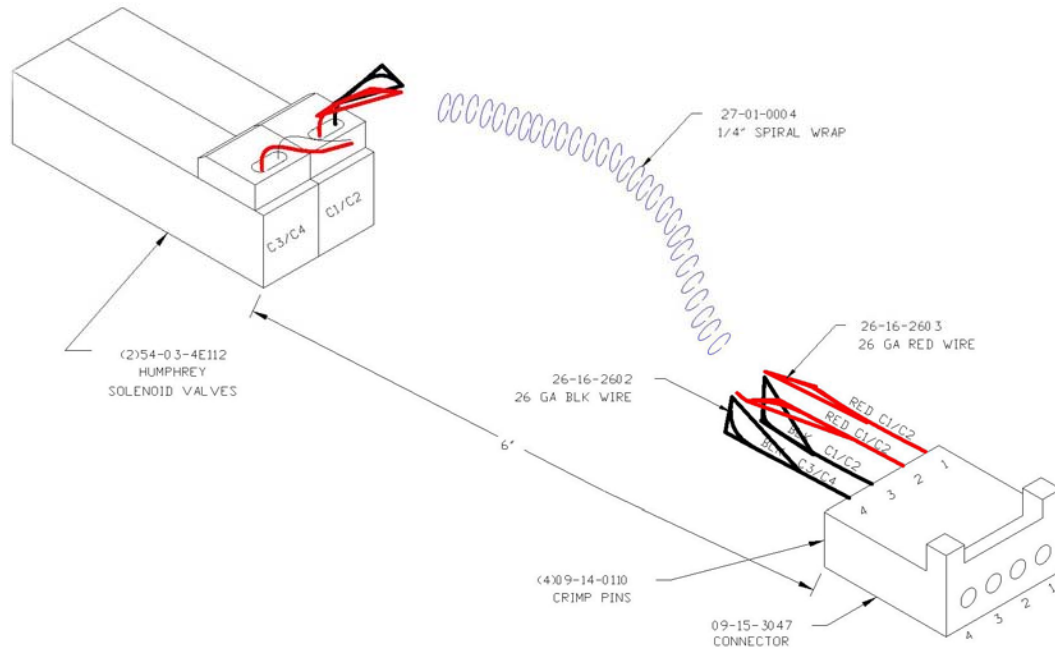
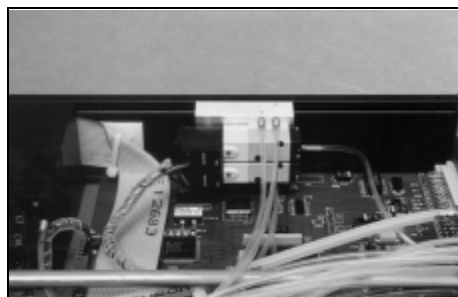

Figure 5.9
Figure 5.9a
- (1) Disassemble the module as described in **Section 5.1.2**.
- (2) Remove the two (2) Allen-head screws that secure the solenoid manifold to the module top guide rail. Carefully move the solenoid manifold assembly to one side for easier access. Be careful **not** to crimp the attached nylon tubing.
- (3) Carefully remove the two (2) Phillips-head screws from the top of the solenoid. Disconnect the solenoid from connector P5 of the PC-299 microprocessor board. See **Figure 5.9 and Figure 5.9a**.